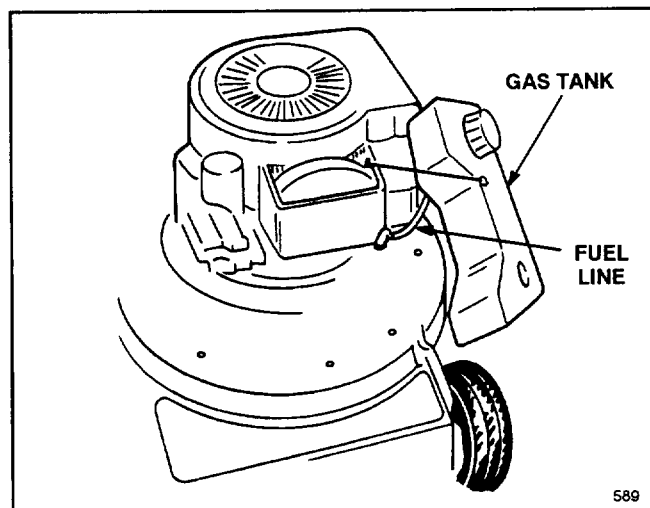

Figure 4
4. Lift the gas tank off the engine and rotate it out of the way, allowing it to hang from the fuel line (Fig. 4).